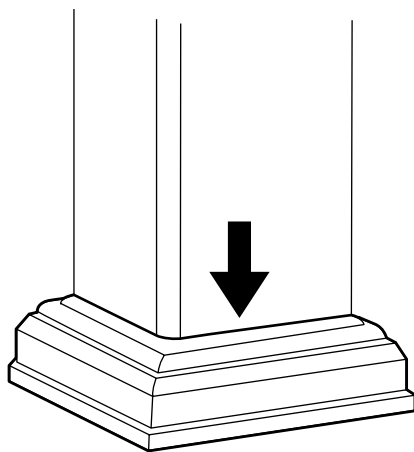

Fig. 1
- If using post sleeve moulding, slide the post down into the cove moulding prior to securing any railings (Fig. 1).